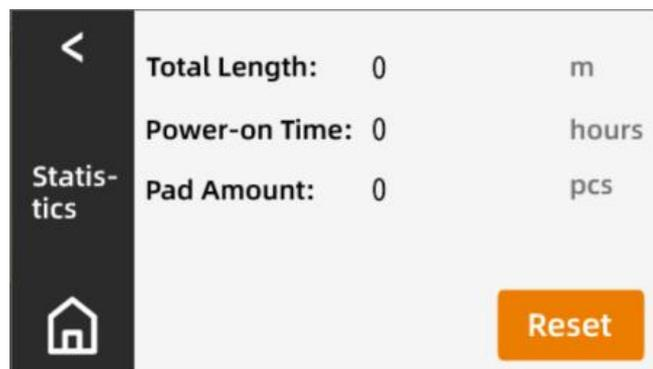

Figure 5.5
- 1) Click  on the Home page to enter the statistics interface (Figure 5.5);